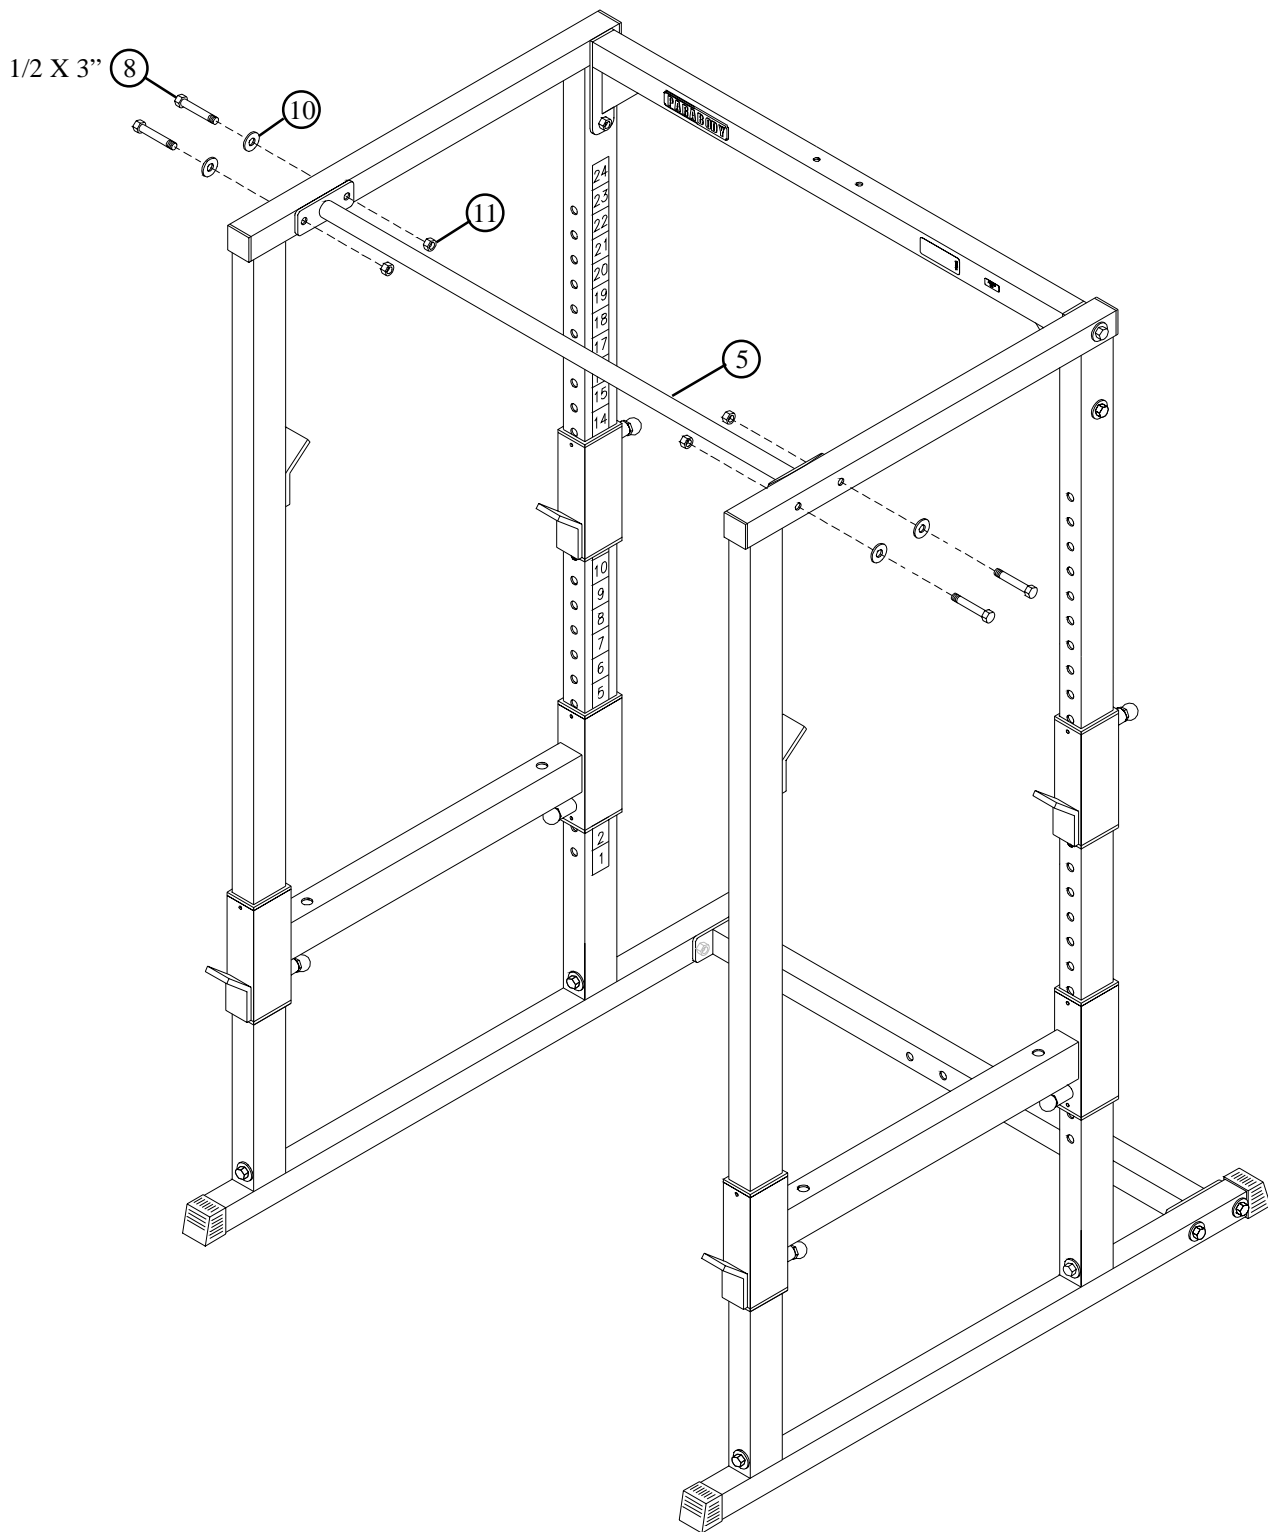

FIGURE 5
- **LOOSELY** assemble the CHIN BAR (5) using four 1/2 X 3" BOLTS (8), four 1/2" WASHERS (10), and four 1/2" LOCK NUTS (11). See FIGURE 5.